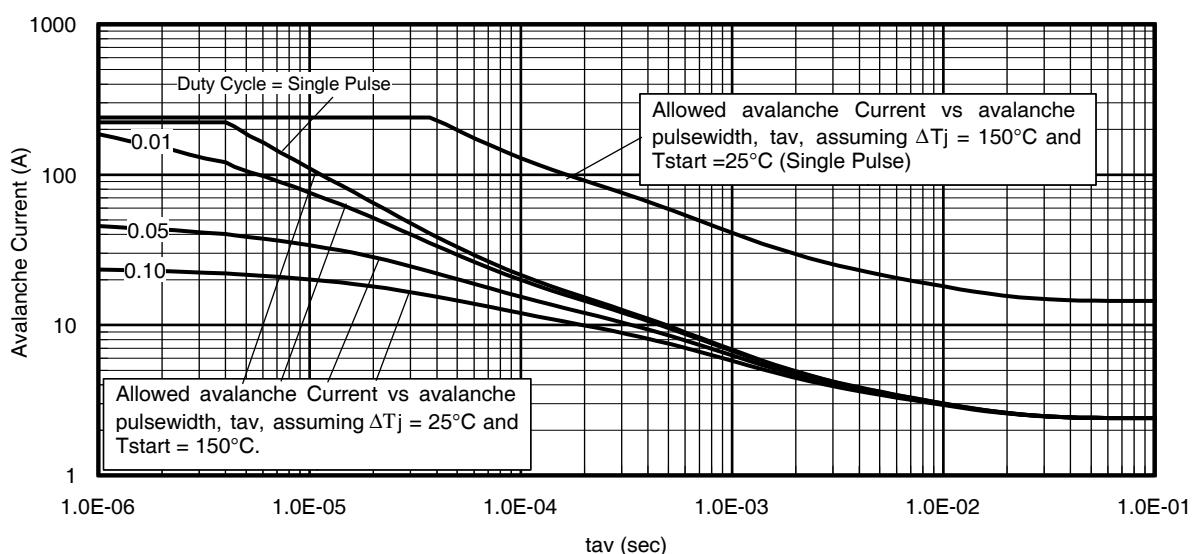

Fig 14. Typical Avalanche Current vs. Pulsewidth
#### Notes on Repetitive Avalanche Curves , Figures 14, 15: (For further info, see AN-1005 at [www.irf.com](http://www.irf.com))
- $\Delta T$  = Allowable rise in junction temperature, not to exceed  $T_{jmax}$  (assumed as 25°C in Figure 14, 15).